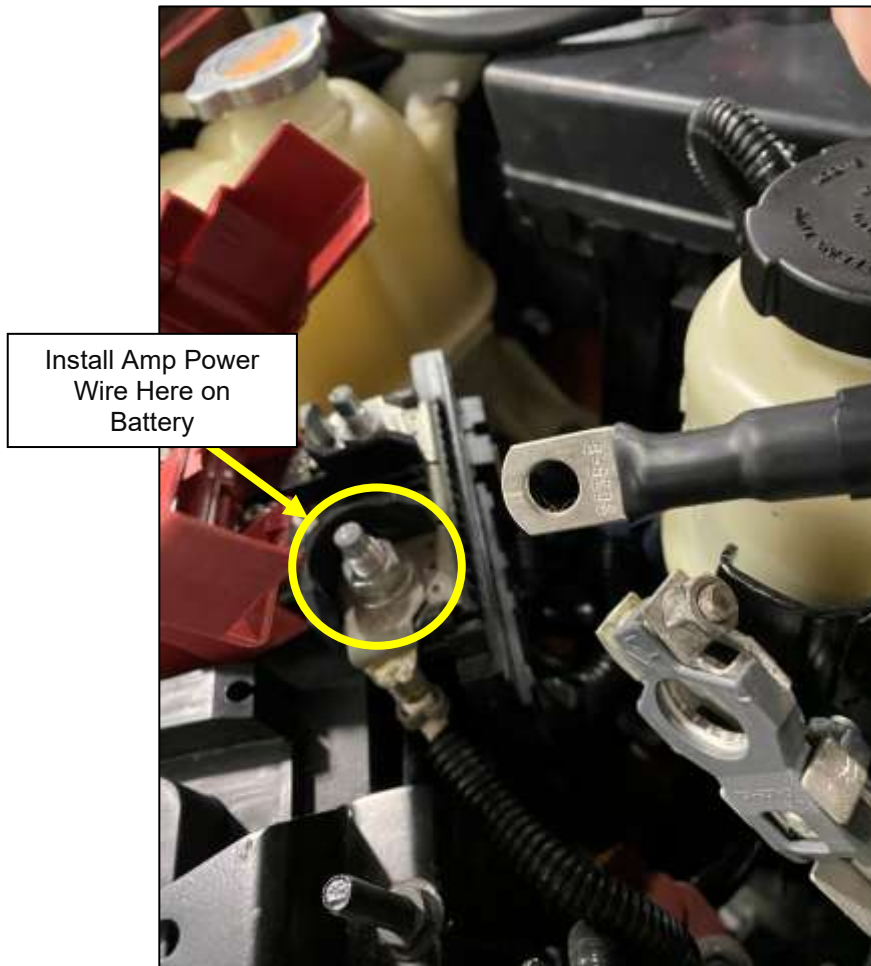

Figure 32
13. In the Engine Bay, make sure the Circuit Breaker is Open then connect the Amp Power Wire to the (+) **POSITIVE** Battery Terminal. Once connected, close the Circuit Breaker. *Figure 32.*